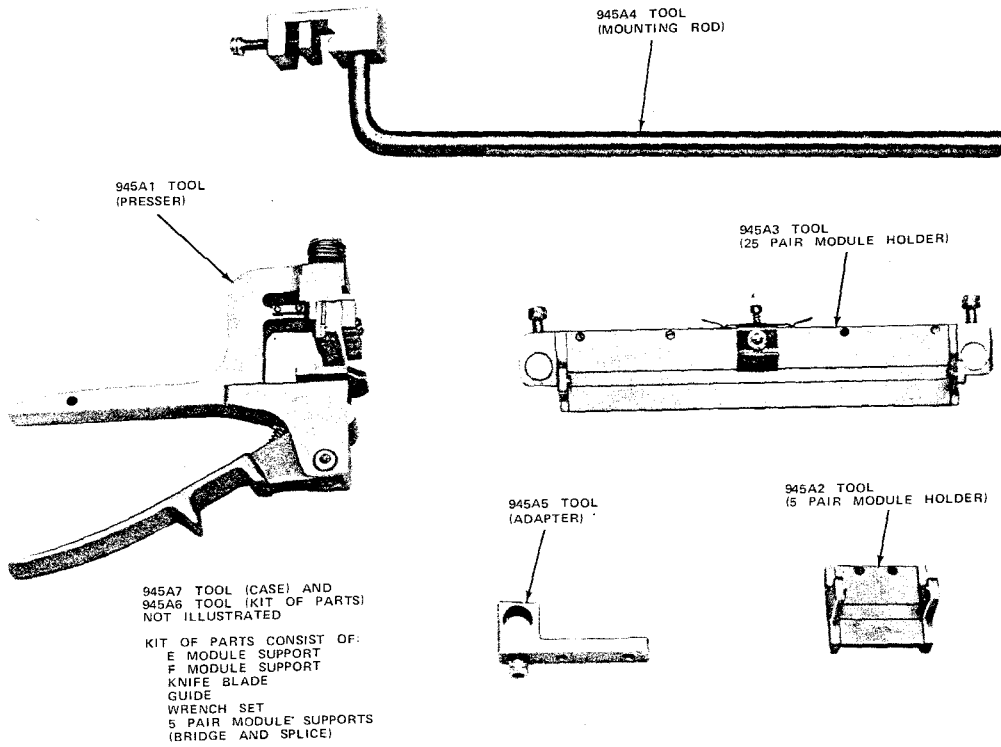

Fig. 36—945A Tool
4.43 The 945A tool (Fig. 36) is a manually operated tool to assemble the 25-pair or 5-pair 710 connector module. Five cut/press positions are provided along the length of the 25-pair module